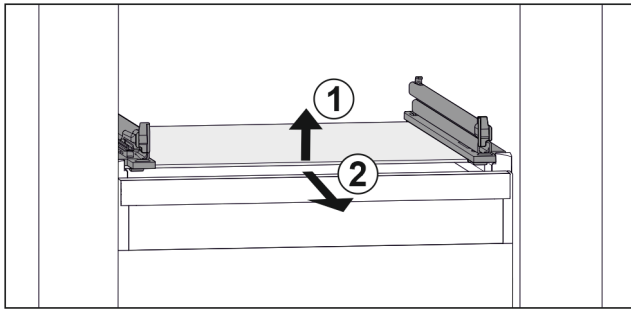

Fig. 160 Example illustration of glass shelf
- ▶ Lift glass shelf at the front. Fig. 160 (1)
- ▶ Take out glass shelf to the front. Fig. 160 (2)